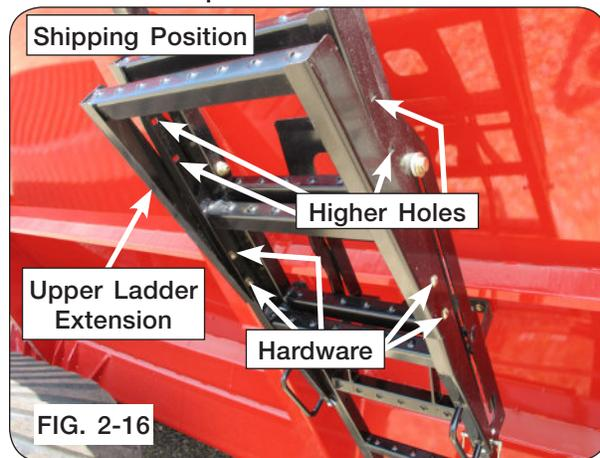

FIG. 2-16
1. Move the upper ladder extension (289707B) from shipping position by removing the 5/16”-18UNC x 3/4” carriage bolts (9388-024), 5/16” flat washers (9405-064) and 5/16”-18UNC lock nuts (9008441). Keep hardware for next step. (FIG. 2-16)
2. Using hardware from step 1, attach upper ladder extension to the higher set of holes to be in operating position. (FIGS. 2-16, 2-17 and 2-18)